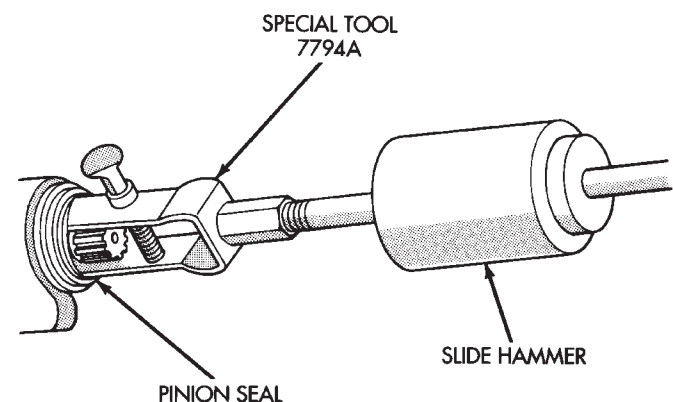

Fig. 11 Seal Removal
(10) Use Remover 7794-A and slide hammer to remove the pinion shaft seal (Fig. 11).